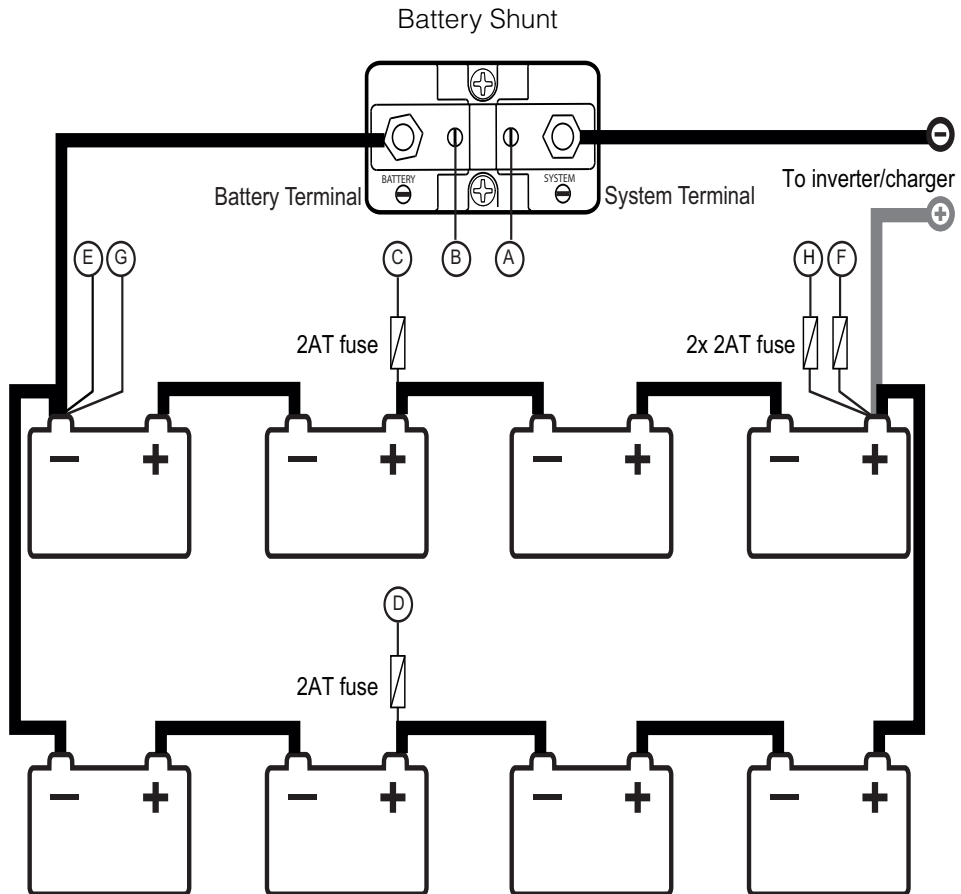

Figure 2-10 Wiring the battery bank
2. Connect the free end of the negative cable to the shunt terminal labeled “SYSTEM.” See Figure 2-10, “Wiring the battery bank” on page 2–18. Ensure all connections are tight.